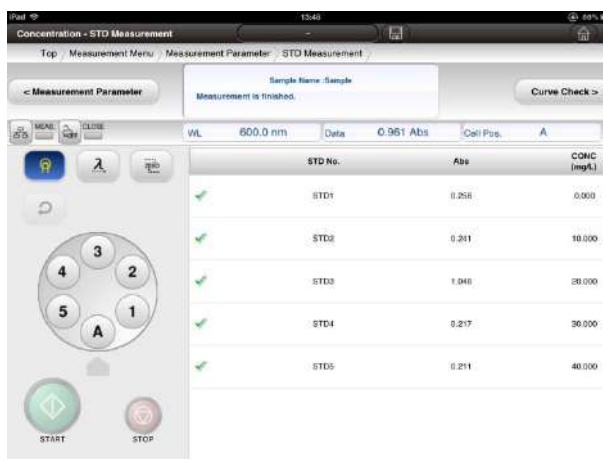

Fig. 4-95 Standard Measurement Window (Standard Number: 5)
- (7) When measurement of all set number of standardss is completed, the window of Fig. 4-95 will be shown.